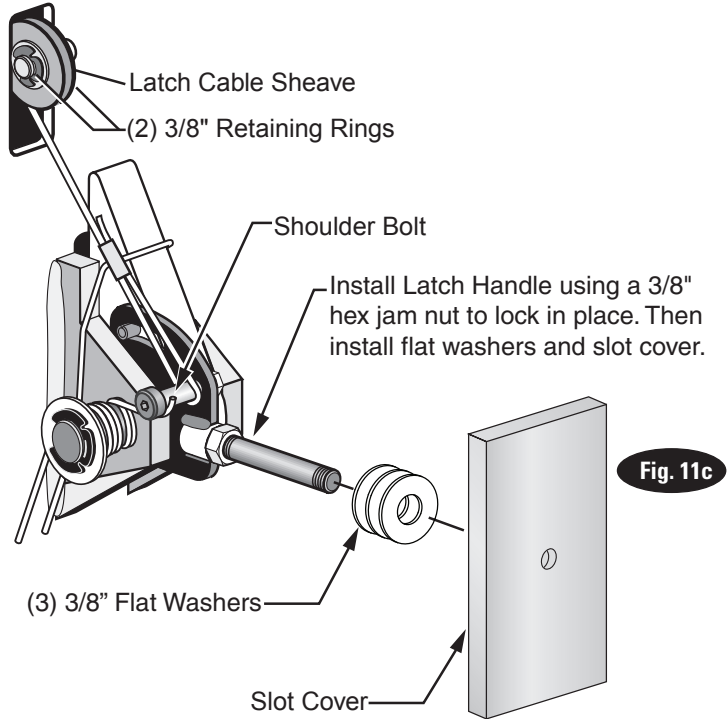

Fig. 11c
- J) At this point you **MUST** install the latch handle, jam nut, and right column latch cover Fig. 11c & Fig. 14. Install latch handle ball, Fig. 14.
- A) Install latch cable sheave and retaining rings in upper slot of power unit column as shown, Fig. 11c.
- B) Slip loop end of cable over end of shoulder screw on right side latch control plate, Fig. 11c.
- C) Feed the other end of the cable through the latch cable sheave slot making sure that the cable is running under the bottom side of the latch cable sheave and inside the right column, Fig. 11c.